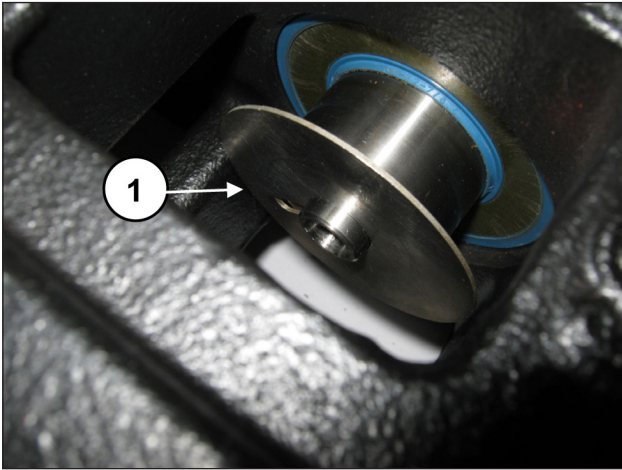

Fig. 186
Position the spray-guard in the piston guide housing (pos. ①, Fig. 186).